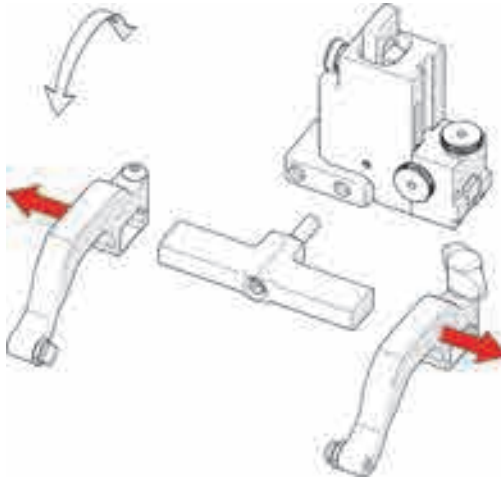

Figure 4-88 Remove probe holder arms
3. Loosen the arm clamp screw and the probe holder arm adjustment knob, allowing removal of the probe holder arms (see Figure 4-88 on page 157).